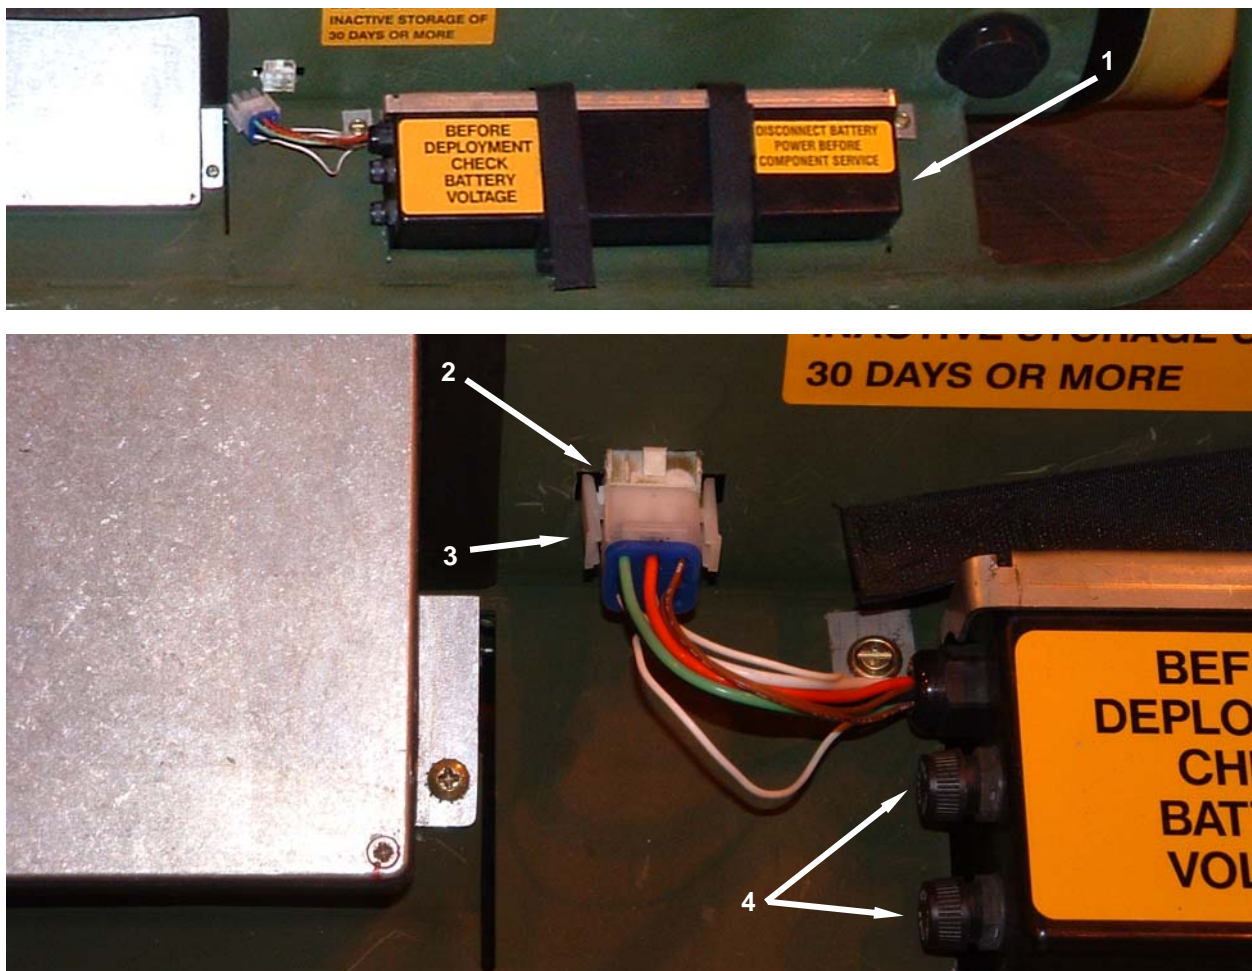

Figure 1. Inspect Battery Pack Assembly.
1. Inspect battery pack (**Figure 1, Item 1**) for signs of physical damage or chemical leakage.
2. Inspect battery pack electrical connector (**Figure 1, Item 2**). Ensure that connector is not cracked or damaged in any way. Ensure that all wires (**Figure 1, Item 3**) leading from battery pack (**Figure 1, Item 1**) to connector housing are free of cuts, abrasions, or any other damage that would expose bare wire.
3. Inspect the two fuse holders (**Figure 1, Item 4**) on the side of the battery pack (**Figure 1, Item 1**) and ensure that there are no cracks or other damage that would prevent the fuse holders from securing the fuse and maintaining proper electrical contact.
4. Ensure that there are no cracks, cuts, or other damage to the outer casing of the battery pack (**Figure 1, Item 1**).
5. If there is any damage to the connector (**Figure 1, Item 2**), fuse holders (**Figure 1, Item 4**), or wiring (**Figure 1, Item 3**), the battery pack should be replaced.